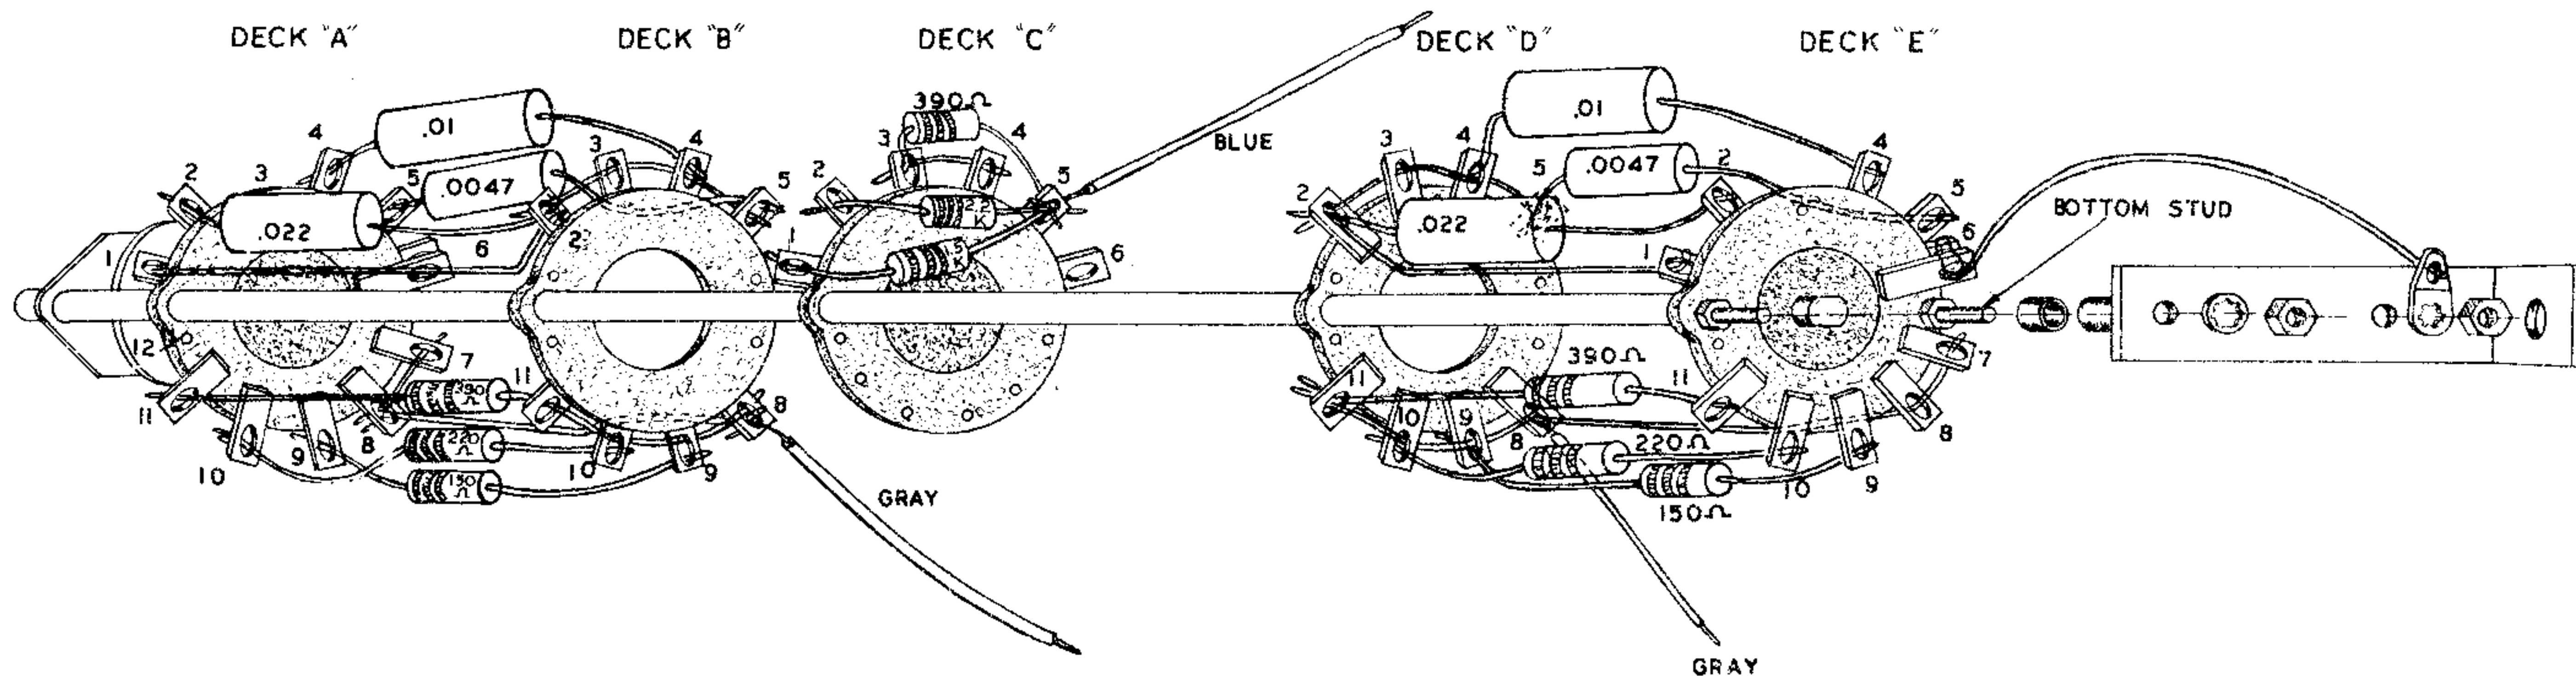

Figure 3
See Figure 3 for following wiring.
( ) Insert a bare wire through B2 to A1; form the wire as shown between B2 and A1. Run the other end of the wire from B2 through B3, B4 to B5 as shown in Figure 3. Solder A1 only.
( ) See Figure 3 and form a bare wire from B8 through B9, B10 to B11 (NS).
( ) Insert a bare wire through D2 to E1; form the wire as shown between D2 and E1. Run the other end of wire from D2 through D3, D4 to D5, as shown in Figure 3; solder E1 only.
( ) See Figure 3 and form a bare wire from D8 through D9, D10 to D11 (NS).
- ( ) On deck C, connect a 1.5 K ohm resistor (brown-green-red) from C1 (S) to C5 (NS); run wire as shown, to avoid shorting other contact.
- ( ) Strip both ends of a 2" piece of blue wire; connect one end to C5 (NS). Leave other end free.
- ( ) Slip two small insulating washers over the switch studs and mount the rear support bracket. Use a 4-40 nut and lockwasher on the top stud and a #6 solder lug and nut on the bottom (stud), being sure the bracket faces in the right direction. See Figure 3.
- ( ) Connect a short bare wire through both lugs at E6 (S) to the adjacent solder lug (S). Set the switch aside until final assembly.